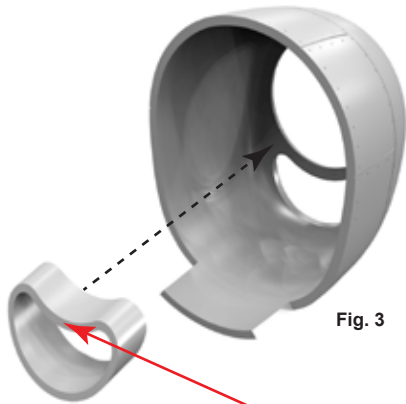

Fig. 3
1. Glue cowl scoops to inside of cowls, as shown (see Fig. 3).